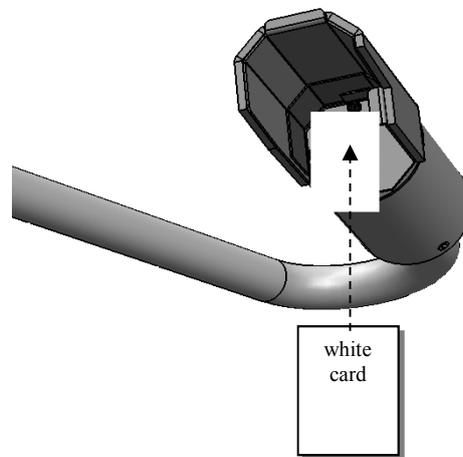

Figure 4-2 Transmitter hood with white card
- Step 4.** Insert a white card (or paper) in the transmitter hood that blocks and almost touches the window (see Figure 4-2 Transmitter hood with white card).
- Step 5.** Insert a white card in the forward scatter receiver hood that blocks the window, and almost touches it (similar to Figure 4-2 Transmitter hood with white card).